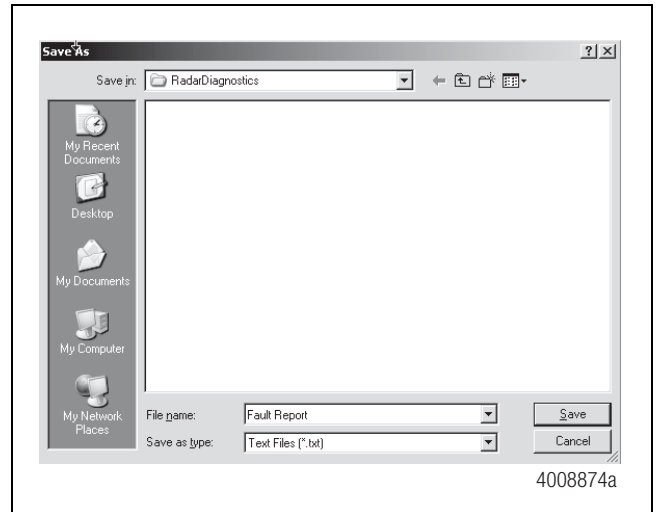

Figure 2.9
- A DTC report can also be generated by selecting the “Generate DTC Report” button, while in the “Diagnostic Trouble Codes” screen. A “Save As” screen will then come up asking you to name the file and select where it will be saved. Figure 2.9. The “DTC Report” includes the extended DTC information. Figure 2.10.